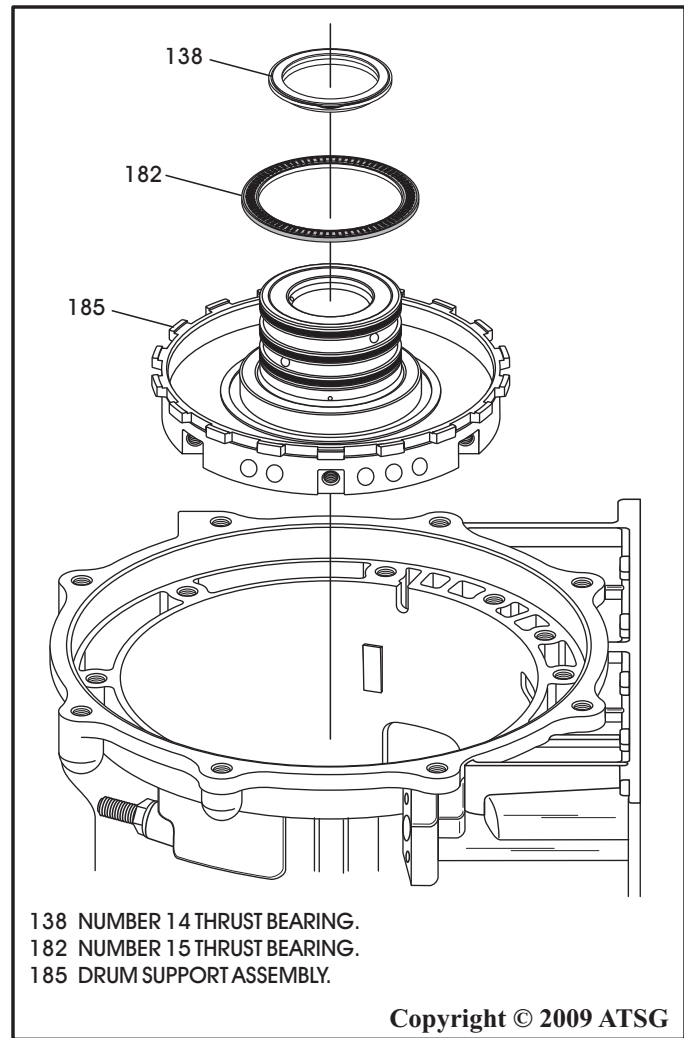

Figure 62
61. Remove the drum support assembly from the case "carefully", as it is a close fit, as shown in Figure 62.
62. Remove the number 14 and 15 thrust bearings, as shown in Figure 62.